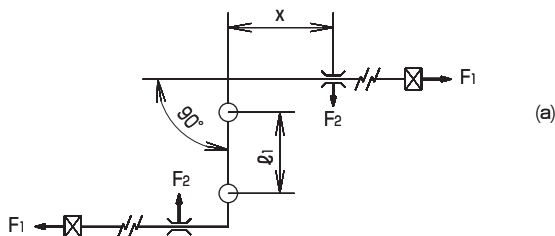

Fig. 12
In Fig.12, 13 and formula (20)–(23)